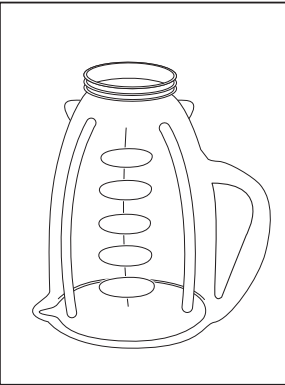

FIGURE 1
- 2. Turn jar upside down so the small opening is at the top. (Figure 1)